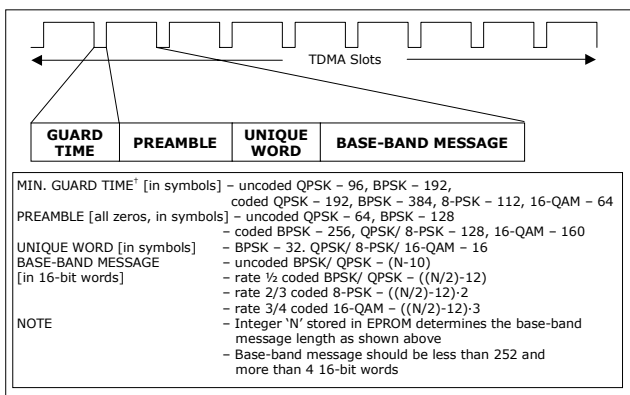

Figure 2. Burst frame structure
- Connect the data source, which provides the data bursts and burst timing (FSYNC, highlighted in Table 3), as in Figure 2.